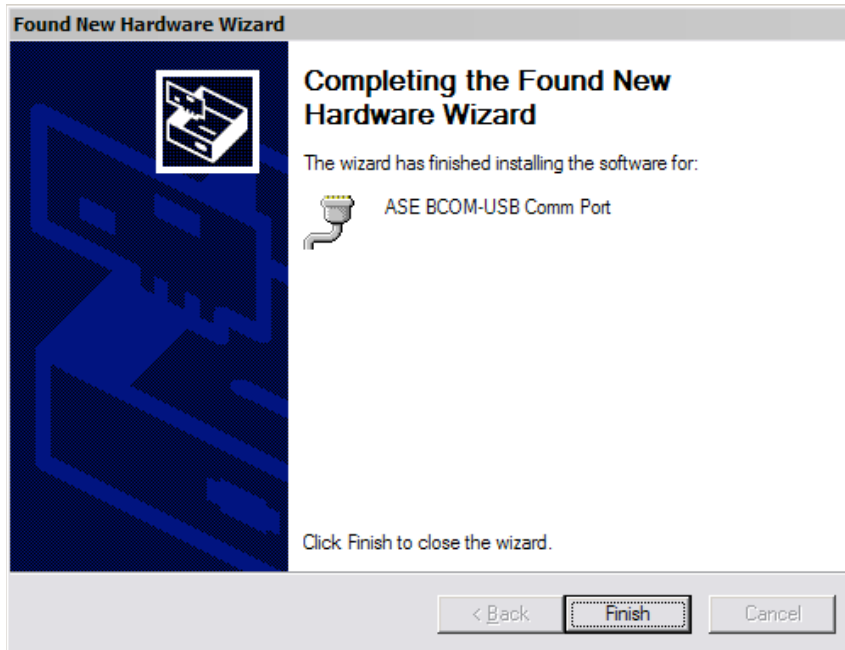

Figure 11
13. As with the “enumerator” installation, the steps illustrated in Figures 7 through Figure 11 will be repeated to install the second BCOM-USB Comm Port.